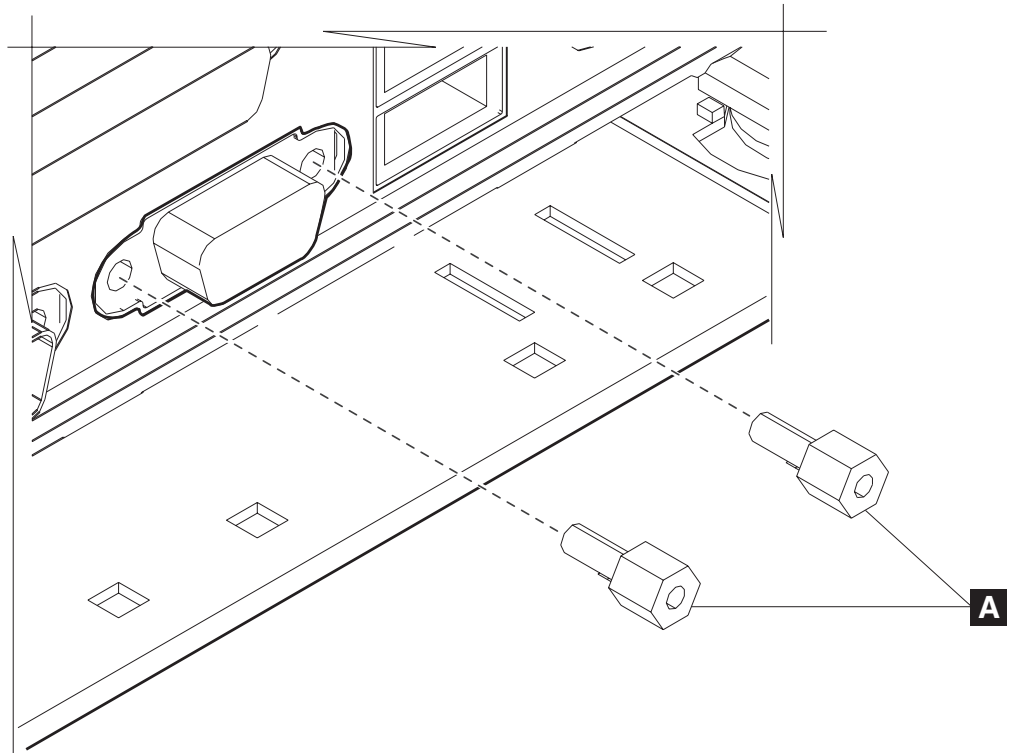

Figure 44. Example of stand-offs
6. Remove the eight standoffs (see **A** in Figure 44) for the parallel, video and serial ports.